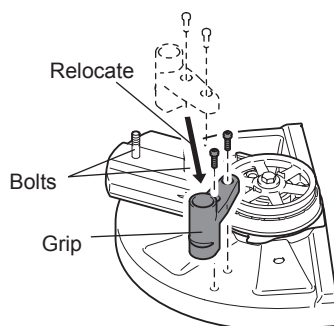

Fig. 5
- Reposition the grip. (Fig. 5)